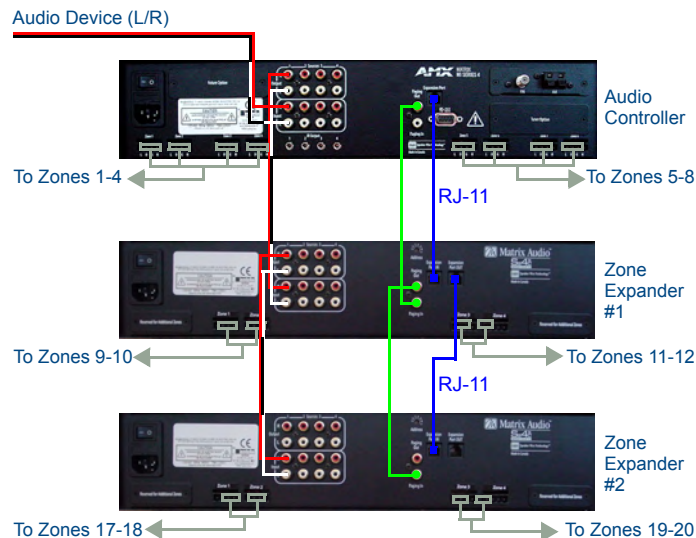

FIG. 5 Connecting the Tango Controller to Zone Expanders
FIG. 5 provides a wiring diagram illustrating the connections between the Tango Audio Controller and multiple Tango Zone Expanders:
1. Connect the RJ-11 jack labelled "Expansion Out" on the Tango Controller to the RJ-11 jack labelled "Expansion Port In" on the rear panel of the Zone Expander. This connection provides the Tango Controller with the ability to control the Zone Expander (see FIG. 5).
2. Set the Address switch on the rear panel of the Zone Expander to "1" if the Zone Expander services zones 9 – 16, set to "2" for zones 17 – 24 and so on until all seven Zone Expanders are utilized (see FIG. 5). Refer to the *Zone Expander Addressing* section on page 2 for further details.
4. Paging Inputs are for Phone Systems or Communications Boxes. If the paging override is used, connect the paging output loop from the Tango Controller to the Zone Expander (see FIG. 5).
5. Connect the keypads to the Tango Controller and Zone Expander(s). Following the same wiring code you used at each of the keypad locations, plug each SWT connector into the desired Zone Output connectors on the Tango Controller and Zone Expanders (see FIG. 5).